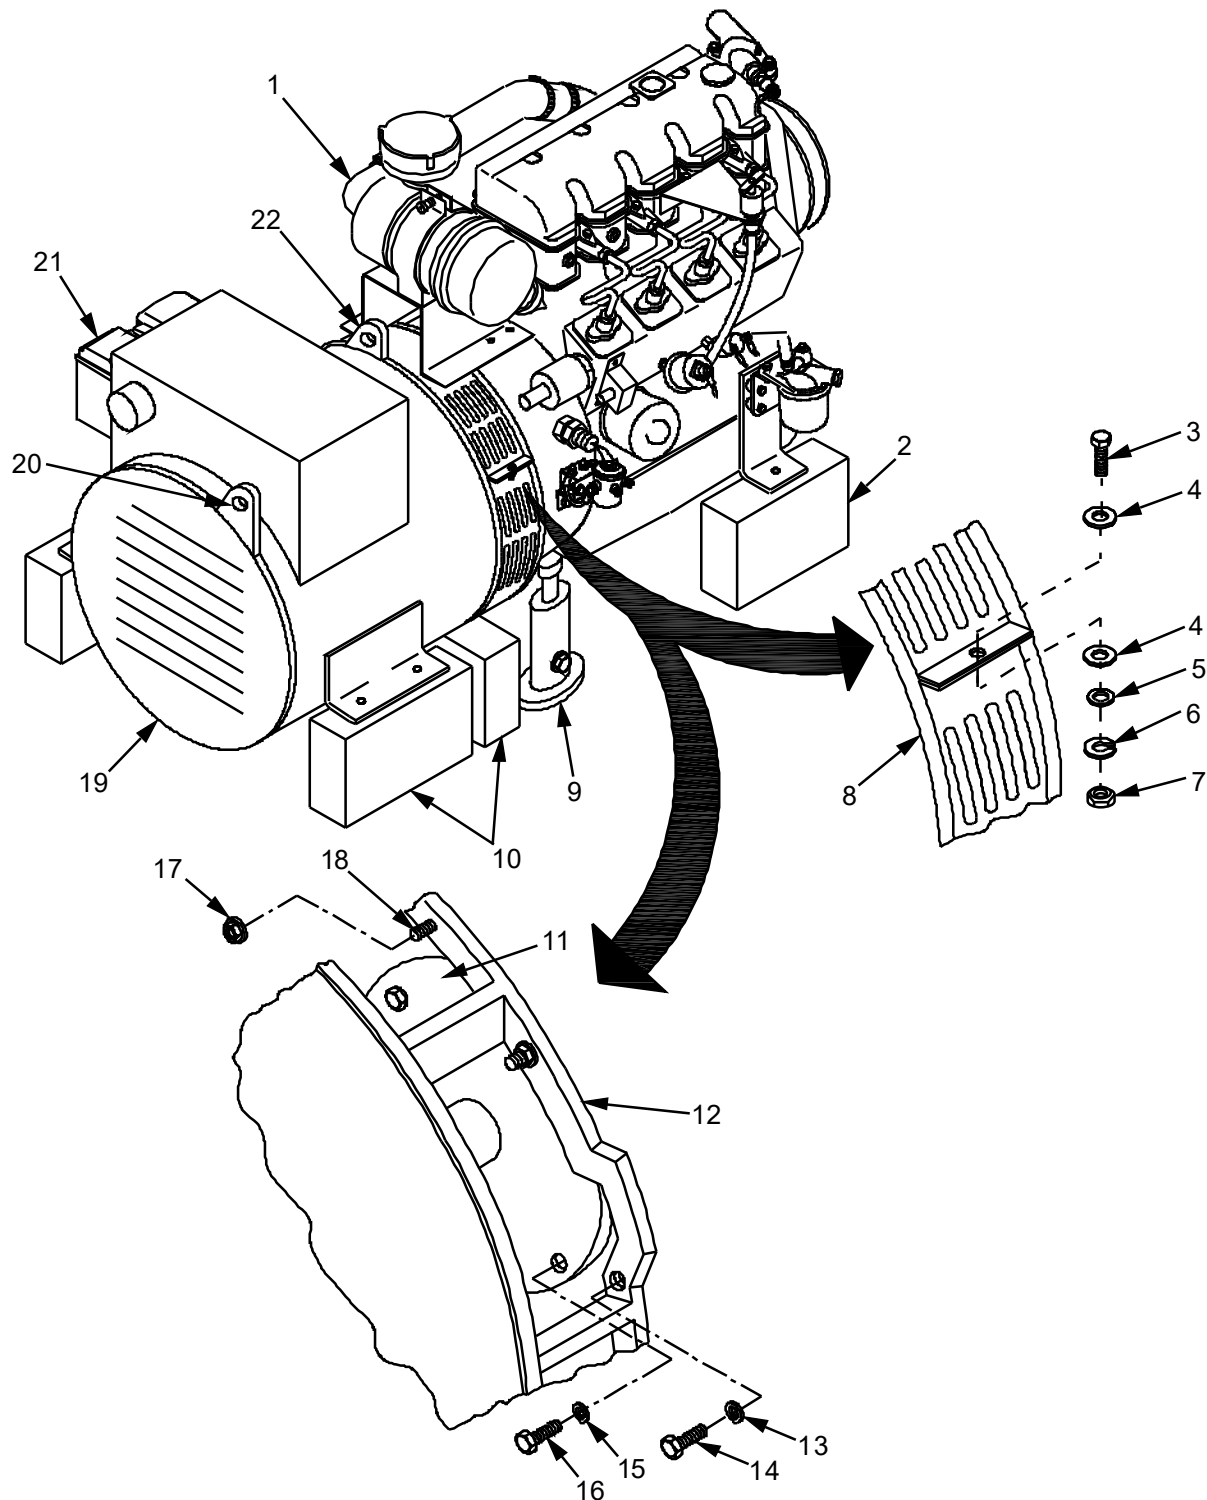

Figure 8. Separating Engine from Generator Assembly.
3. Remove engine (engine block) heater (Figure 8, Item 21) from generator (Figure 8, Item 19) (WP 0066).
4. Remove and retain bolt (Figure 8, Item 3), three flat washers (Figure 8, Items 4 and 6), lock washer (Figure 8, Item 5) and nut (Figure 8, Item 7) securing metal grille (Figure 8, Item 8). Discard lock washers (Figure 8, Item 5).
6. Remove and retain metal grille (Figure 8, Item 8).
7. Remove and retain eight bolts (Figure 8, Item 16) and lock washers (Figure 8, Item 15) from flex plate (Figure 8, Item 11). Discard lock washers (Figure 8, Item 15).
9. Remove and retain six mounting bolts (Figure 8, Item 14) and lock washers (Figure 8, Item 13) securing the generator to the engine (Figure 8, Item 1).
10. Remove two nuts (Figure 8, Item 17) securing the generator to the two alignment studs (Figure 8, Item 18).
When performing the following step, ensure that flex plate (Figure 8, Item 11) on generator and engine flywheel do not stick together causing main stator to slide out of generator. Failure to observe this caution can result in serious damage to the generator.
Prior to beginning the following steps, ensure that engine and generator are supported separately using a bottle jack (Figure 8, Item 9) or lumber support (Figure 8, Items 2 and 10). Failure to observe this caution can result in serious damage to engine or generator.
Prior to beginning the following steps, ensure that engine and generator are supported separately using a bottle jack (Figure 8, Item 9) or lumber support (Figure 8, Items 2 and 10). Failure to observe this caution can result in serious damage to the engine or generator.
1. Attach suitable lifting device to the two lift points (Figure 8, Items 20 and 22) on the generator (Figure 8, Item 19). Remove any slack from chain/sling.
2. Remove any strap ties securing flex plate (Figure 8, Item 11) to frame of generator.
3. Using a suitable lifting device, lift generator (Figure 8, Item 19) and guide onto two alignment studs (Figure 8, Item 18) on engine (Figure 8, Item 1). Ensure generator is tilted back slightly to keep stator from falling out.
4. Loosely install two nuts (Figure 8, Item 17) onto two alignment studs (Figure 3, Item 18) on engine.
5. Loosely install six mounting bolts (Figure 8, Item 14), new lock washers (Figure 8, Item 13), and secure generator (Figure 8, Item 19) to engine (Figure 8, Item 1).
6. Align flex plate (Figure 8, Item 11) with engine (Figure 8, Item 1). Loosely install eight bolts (Figure 8, Item 16) and new lock washers (Figure 8, Item 15).
7. Using torque wrench, tighten two nuts (Figure 8, Item 17) on alignment studs (Figure 8, Item 18) to 35 to 40 ft./lb (47.45~54.23 n-m/4.84~5.53 kgf-m).
8. Using torque wrench, tighten six mounting bolts (Figure 8, Item 14) and lock washers (Figure 8, Item 13) to 35 to 40 ft./lb (47.45~54.23 n-m/4.84~5.53 kgf-m).
9. Using torque wrench, tighten eight bolts (Figure 8, Item 16) and lock washers (Figure 8, Item 15) on flex plate (Figure 8, Item 11) to 17 to 20 ft./lb (23.05~27.11 n-m/2.35~2.76 kgf-m).
10. Install metal grille (Figure 8, Item 8) onto generator and secure with bolt (Figure 8, Item 3), flat washer (Figure 8, Item 4 and 6), new lock washer (Figure 8, Item 5), and nut (Figure 8, Item 7). Using torque wrench, tighten bolts (Figure 8, Item 3) to 7 to 10 ft./lb (9.49~13.55 n-m/0.97~1.38 kgf-m).
11. Install engine (engine block) heater (Figure 8, Item 21) to generator (WP 0066).